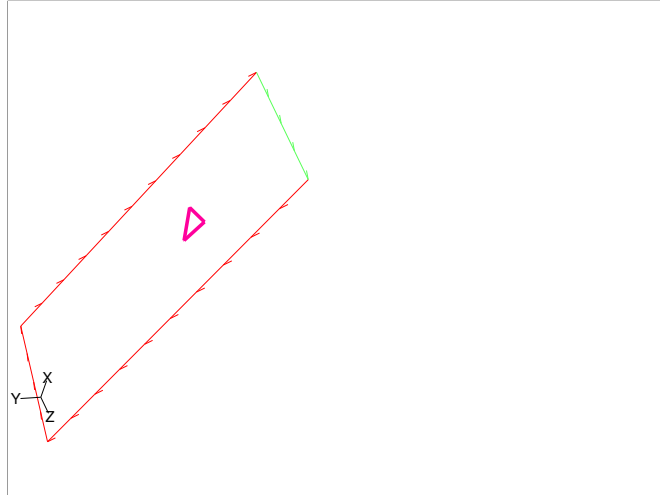

Figure 7.6.5: Edge Loops for Face Seed Approach and Fixed Angle = 55 (or Adaptive Angle)
- Figure 7.6.5 shows the edge loops created by using the **Face Seed** approach and **Fixed** angle criterion, with the angle specified as 55 degrees. The boundary edge thread is created based on the seed face selected. The interior edge thread at the common edge is created since the specified value for **Angle** is smaller than the feature angle. Alternatively, if you use the **Adaptive** angle criterion, the change in angle will be detected automatically and the boundary and interior edge threads will be created as shown in Figure 7.6.5.